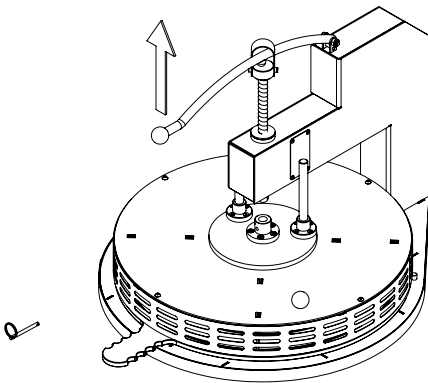

Figure 1
- As seen in **Figure 1** fully pull the Arm upwards.